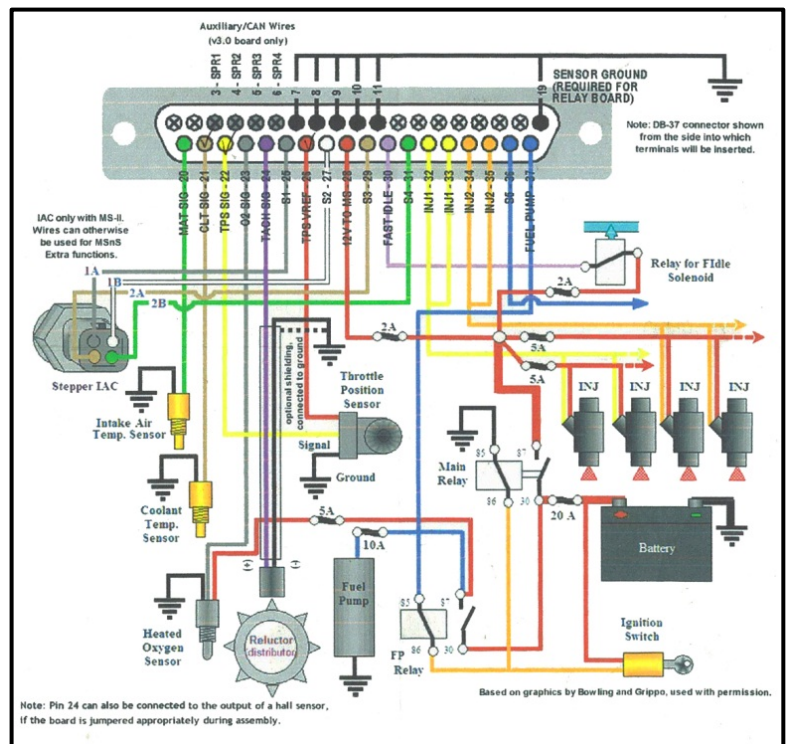

Figure 1.1: Basic Wiring Diagram
Figure 1.1 illustrates a typical wiring diagram supplied with each Megasquirt harness. Please note that the wiring diagram is meant only as a guide, and will vary with each installation.
- **Figure 1.1:** RS Autosport Universal Wiring Diagram. Supplied with RS Autosport 12' Megasquirt wiring harness